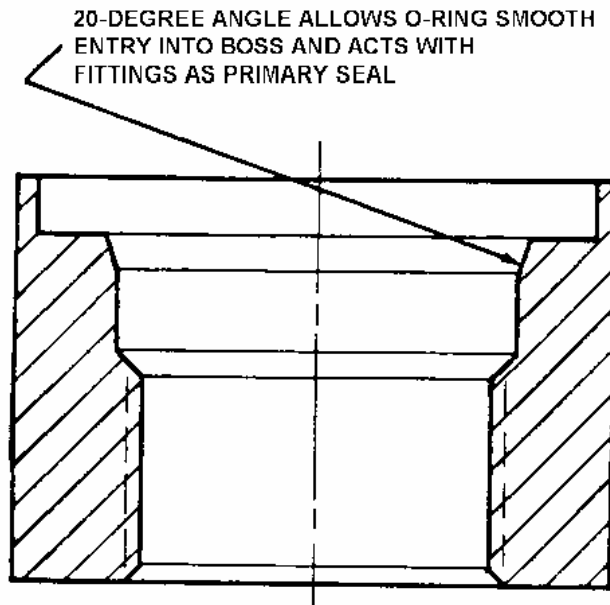

Figure 1. Port (Standard PS10035)
4. Port preparation is only authorized at the Depot Level. Figure 1 shows the standard port that will accept Rosan fittings (Figure 2). Two main functions, threading and broaching, are required to prepare a port.